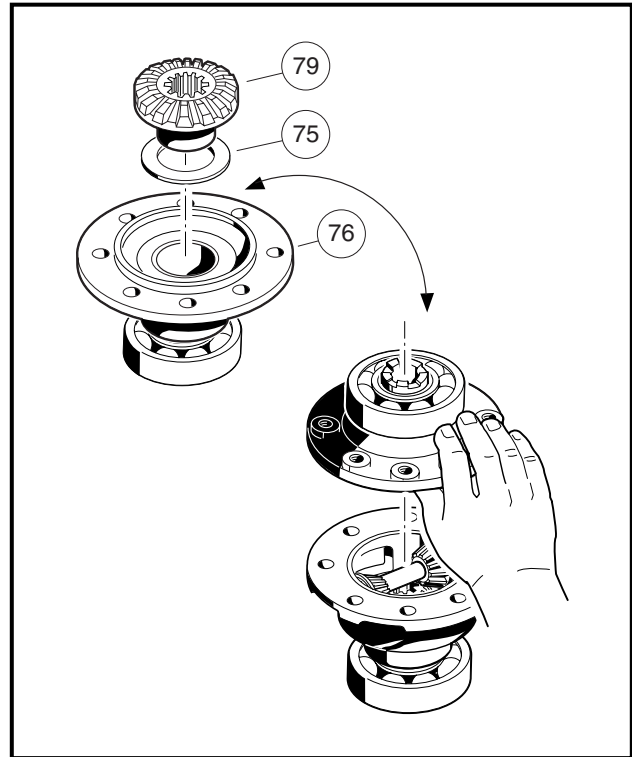

Figure 19-38 Carrier Case
5. Install the thrust plate (75) and differential gear (79) into the carrier case cover (76) (**Figure 19-14, Page 19-10**) Also see **Figure 19-38, Page 19-20**. While holding the thrust plate and differential gear in place, position the carrier case cover on the carrier case.